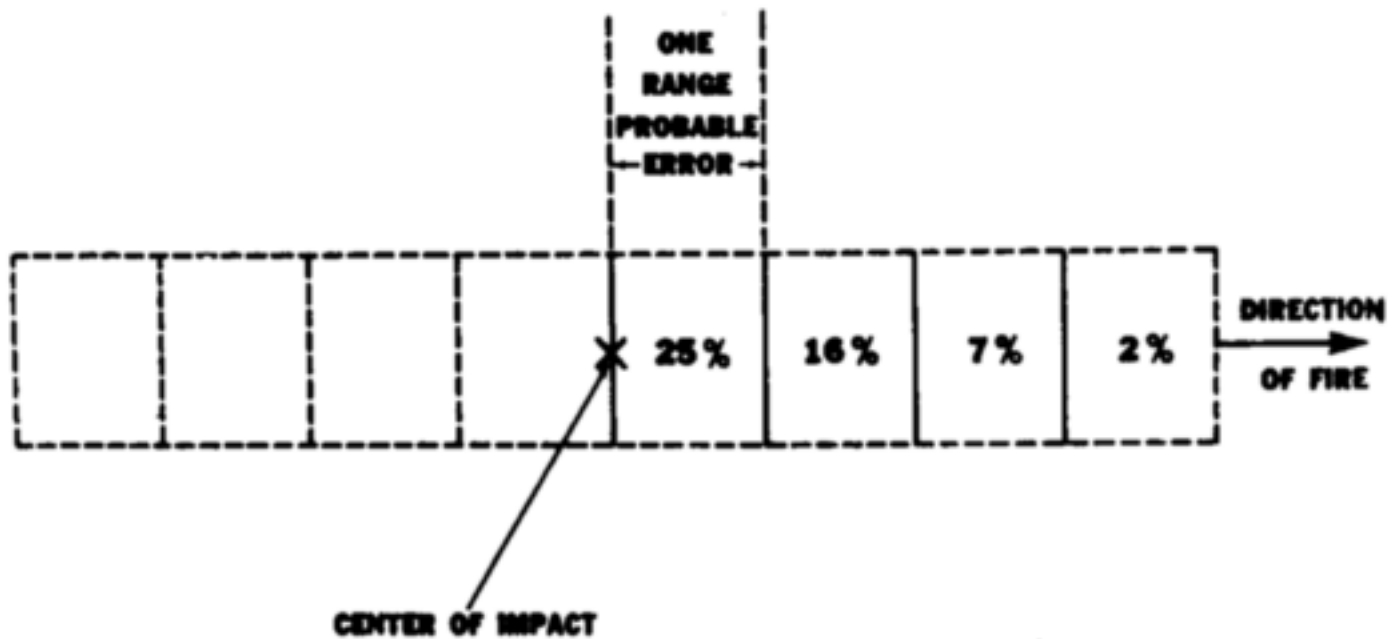

Figure 37. Dispersion rectangle.
(1) When firing a large number of rounds from a rifle having elevation, direction, and other conditions as nearly identical as possible, the points of impact of the projectile are scattered both in range and deflection. This scattering is called *dispersion*. The greatest concentration of points of impact is near the center of the group. Approximately as many points fall short of the center as fall beyond, and a few will fall to the right or to the left.
(2) Among factors that cause dispersion are variations in weight and composition of the propellant, weight and balance of the projectile, and atmospheric condition.
c. Dispersion Rectangle and Probable Error. In general, the points of impact of projectiles fired from a rifle, using the identical sight picture for each cartridge fired, may be included in a rectangle with its longer axis along the gun-target line. This is called a *dispersion rectangle*. If this rectangle is divided into eight equal parts by lines drawn perpendicular to the line of fire, the percentage of points of impact to be expected in each part is as shown in figure 37. Notice that each of the two segments nearest the center of the dispersion rectangle contain 25 percent of all impacts. The length (in the direction of fire) of each of the segments of the dispersion rectangle represents one range probable error. The value in meters of one range probable error, which varies with the range from the rifle to the center of impact, is given in the firing table pertaining to the type of ammunition being fired.